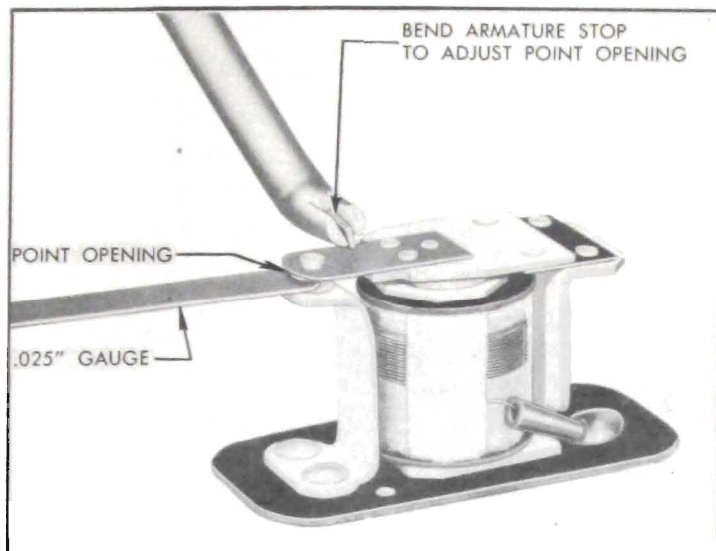

Figure 10-116—Relay Contact Point Adjustment
3. With armature free, check contact point opening, using feeler gauges. Point opening should be .025". Adjust opening to .025", if necessary, by bending the upper armature stop. See figure 10-116.
The wiring circuits used in 1948 models and shown in figure 10-116 are entirely different